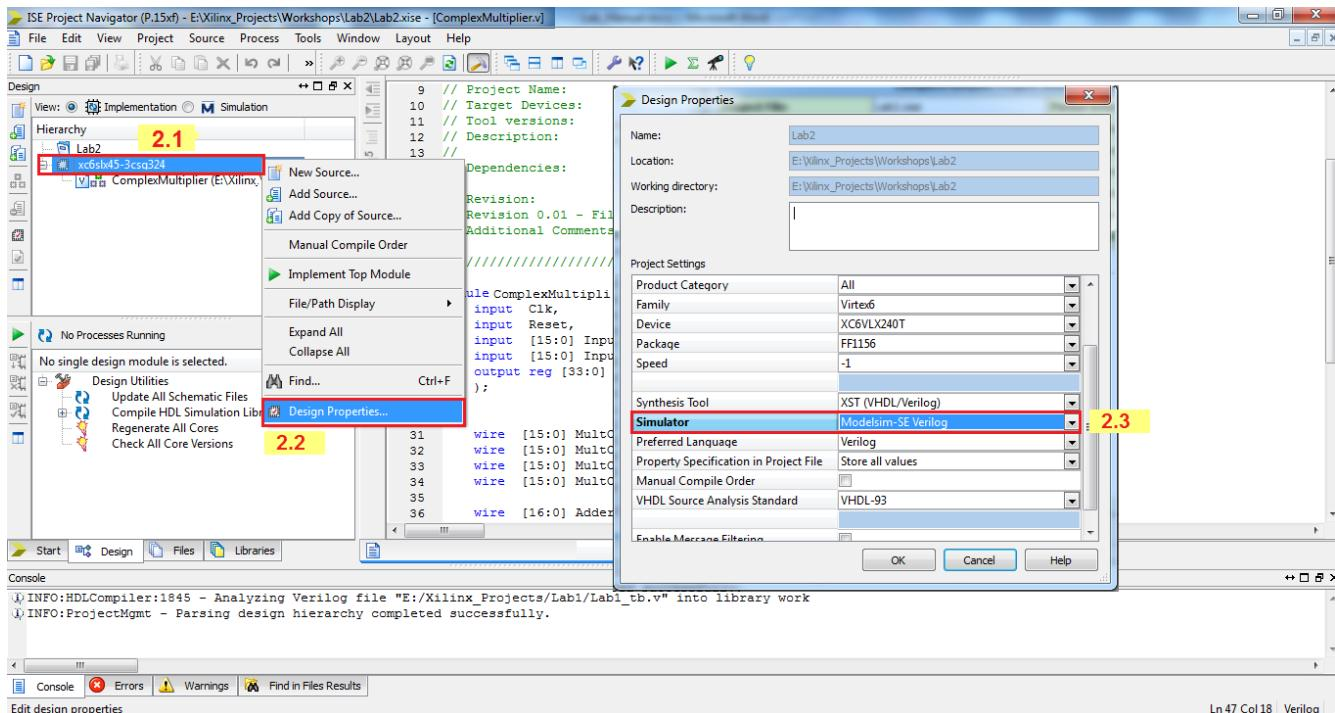

Figure 17.
2. Select ISim as the Simulator (Figure 17)